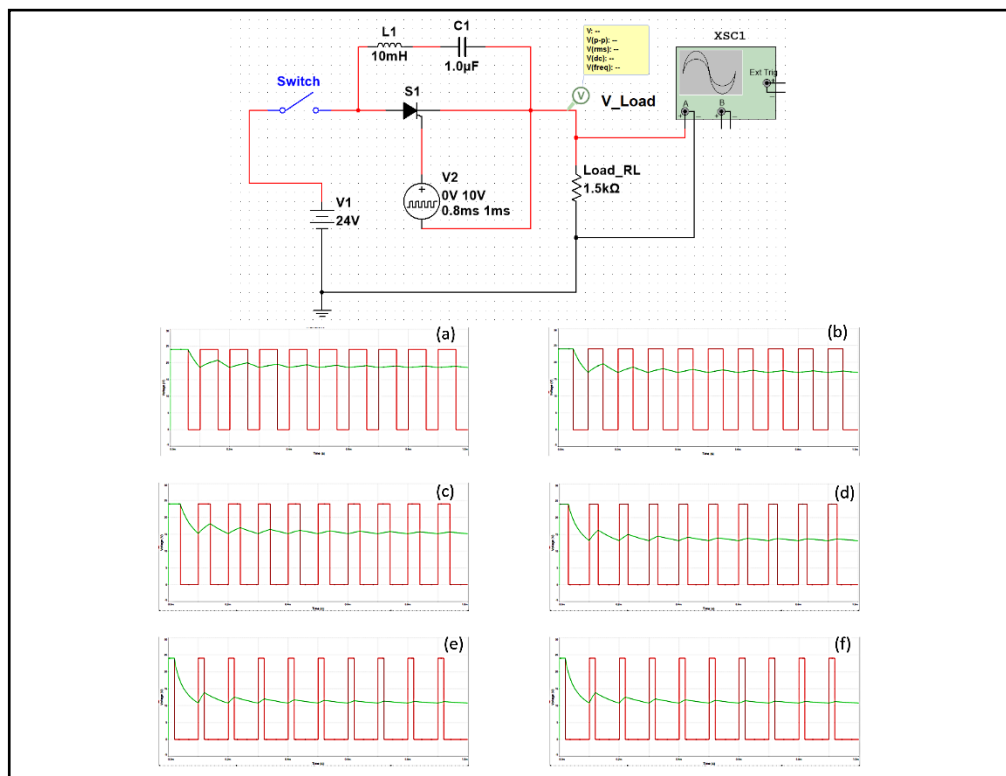

Fig 10.1: Circuit Diagram Showing SCR based Buck Converter circuit with R load and Class-B commutation.
- Make the circuit connection as per the Fig. 10.1.